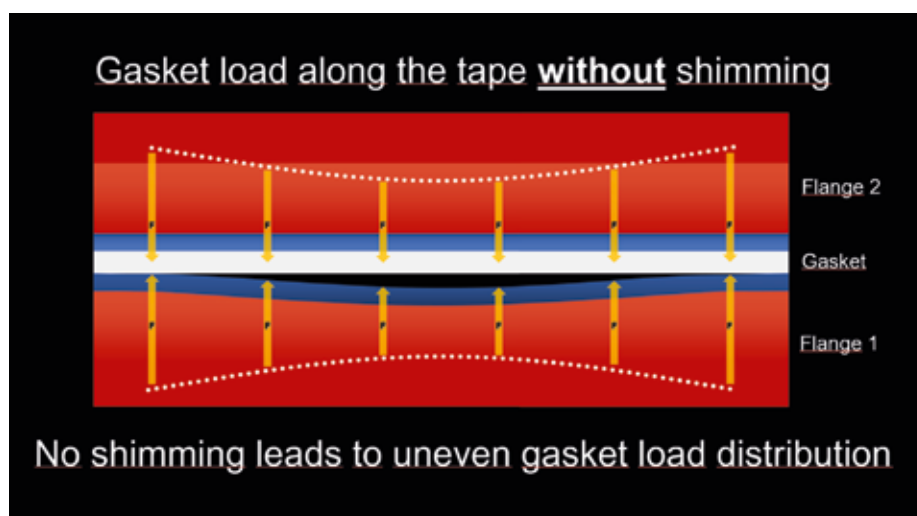

Figure 3.
- To avoid distortion of thin flanges and/ or to avoid damage to stress-sensitive connections, apply Tedit 24B in an irregular pattern as shown in Image 1, Fig. 3.
- Two tape strips can be used for particularly difficult sealing problems (flange rotation, vibrations, or similar) (Image 2, Fig. 3).